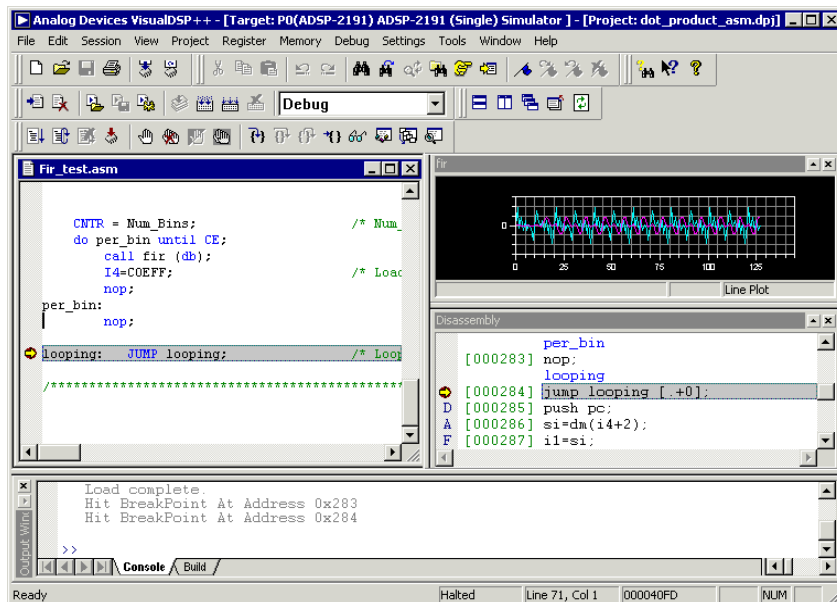

Figure 3-26. Plot Window: After Running the FIR Program to Completion
4. Press F5 or click the Run button  to run to the end of the program. When the program halts, you see the results of the FIR filter in the Output array. The two data sets are now visible in the Plot window, as shown in Figure 3-26.